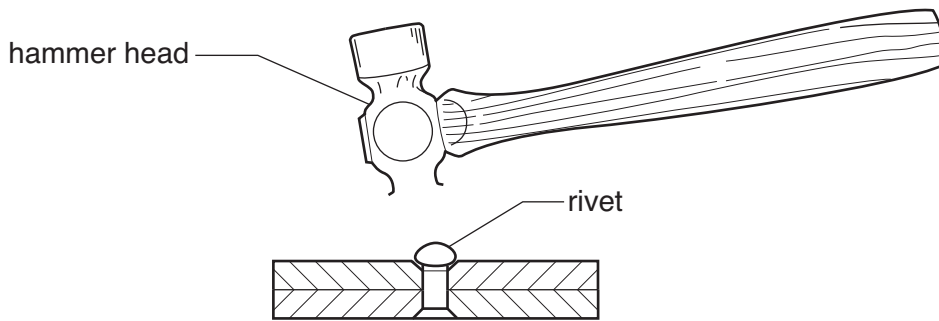

Fig. 2.1
- 2 Fig. 2.1 shows an incomplete drawing of two pieces of metal being riveted together.
(b) Complete the shape of the hammer head that is about to strike the rivet in Fig. 2.1.